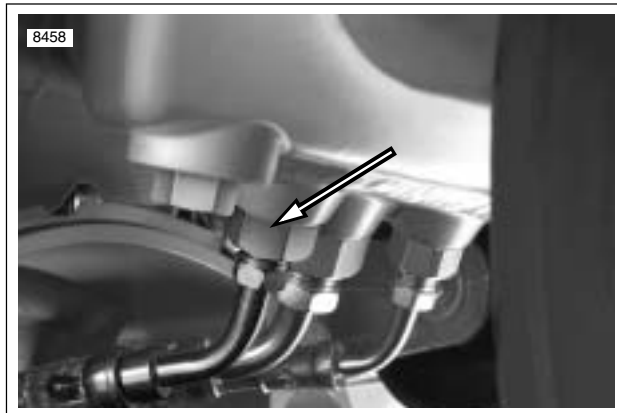

Figure 2-84. Oil Line Fittings
1. See Figure 2-84. Remove oil line fittings from swingarm. See Table 2-13.
3. See Figure 2-84. Install oil line fittings on swingarm. Tighten to 29-31 ft-lbs (39-42 Nm). See 3.9 OIL HOSE ROUTING AND OIL RESERVOIR.